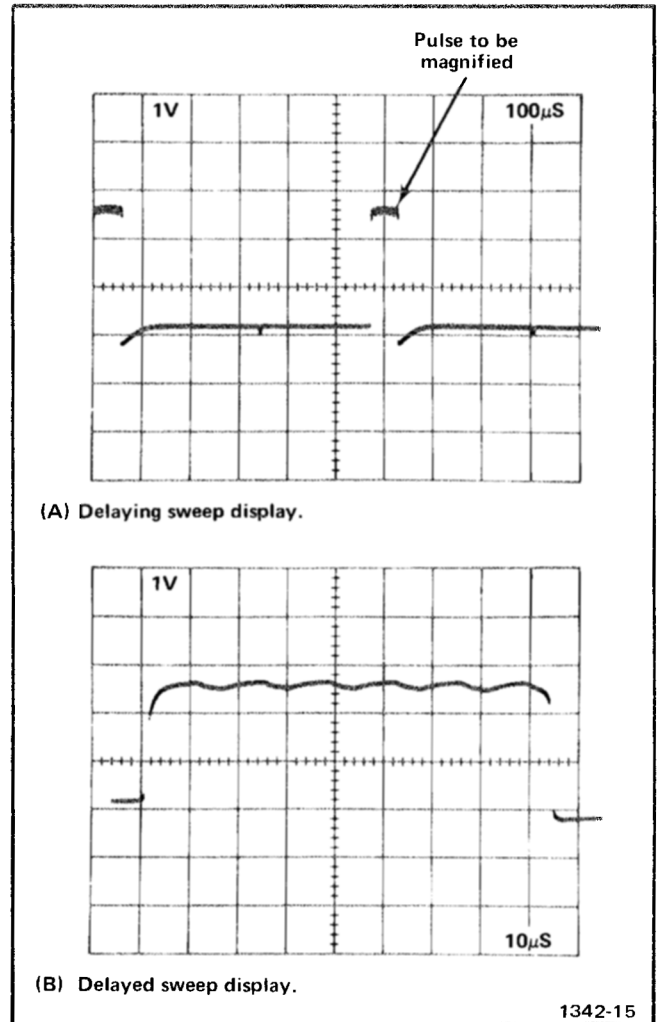

Fig. 2-14. Using delayed sweep for magnification.
4. Set the TIME/DIV OR DLY TIME switch to a sweep rate which displays the complete waveform (see Fig. 2-14).
Example. The apparent magnification of the display shown in Fig. 2-14 with a TIME/DIV OR DLY TIME setting of .1 ms and a DLY'D Time/Division switch setting of 10 μs is: